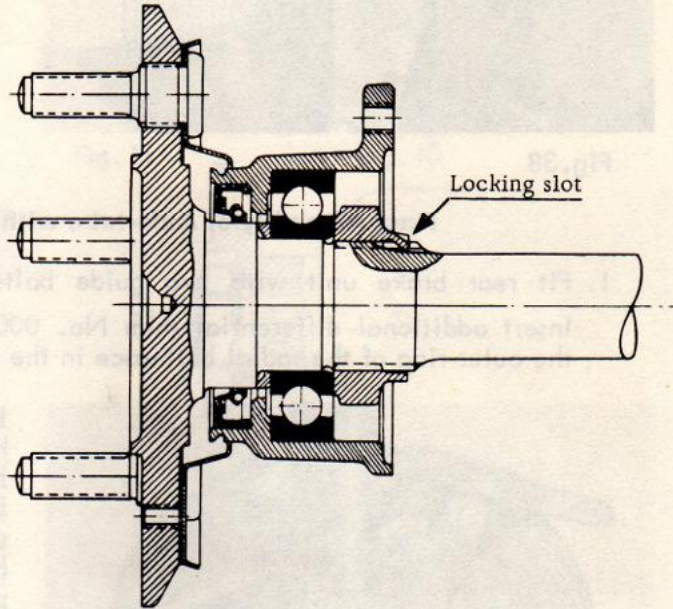

Fig.35
5. Screw on special nut, tighten (WK 150) and lock against further movement (Fig. 35).